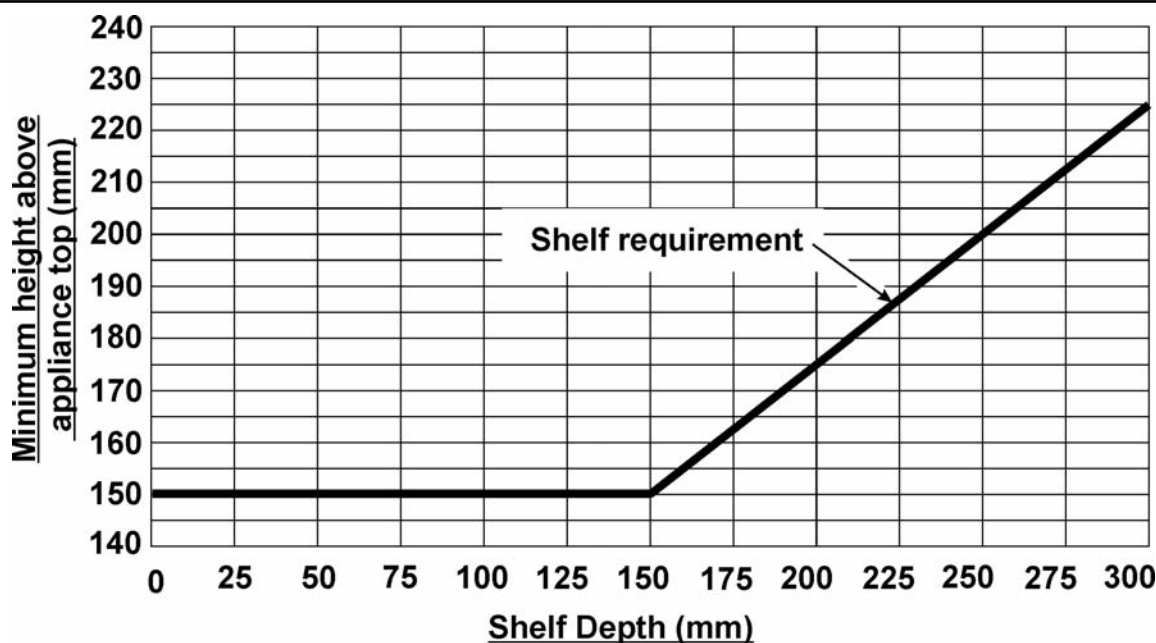

figure 2. Combustible shelf clearances.
4.6 Fireplace clearances (See figure 2).